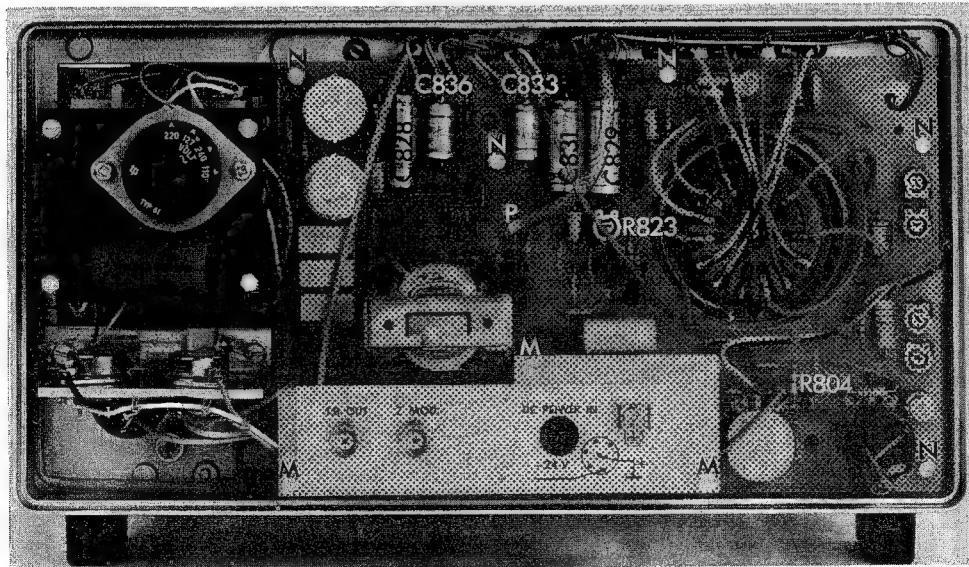

Fig. 3.10. Adjusting and dismantling
- Check that the voltage across capacitor C833 is +12 V, + or -20mV; if necessary, readjust potentiometer R823 (Fig. 3.10).